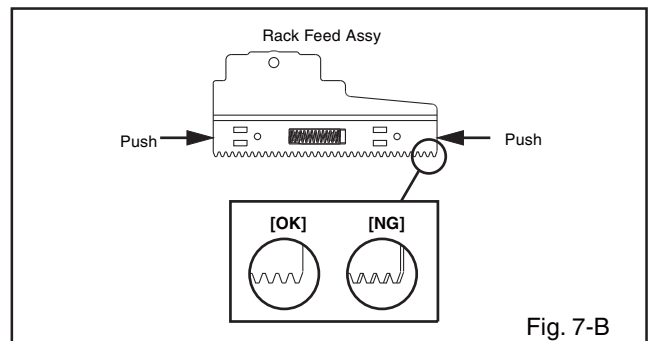

Fig. 7-B
4. After the assembly of the TRVERSE Assy, hook the wire on the TRVERSE Assy as shown Fig. 7-E.